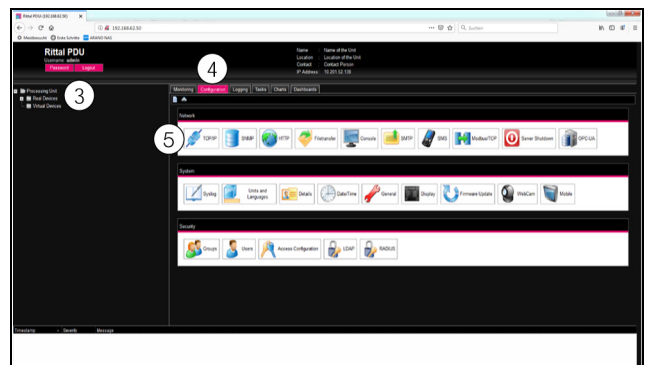

Fig. 35: Customise the TCP/IP settings
- Click the Login button to display the website of the device. The overview window for the device will appear (fig. 35).
- In the left-hand section of the overview window (navigation area), click the **Processing Unit** entry (fig. 35, item 3), and in the right-hand section (configuration area), click the **Configuration** tab (fig. 35, item 4).
- In the **Network** group box, click on the **TCP/IP** button (fig. 35, item 5).